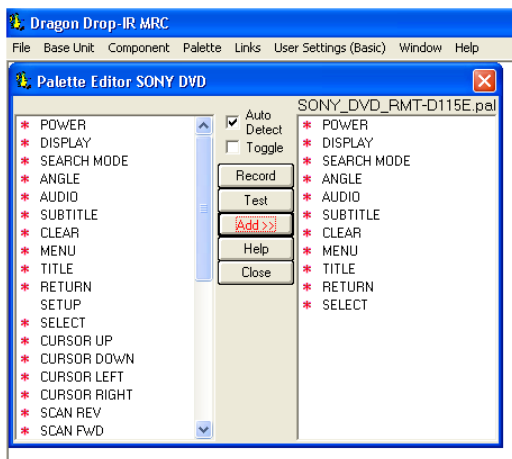

Figure 19: Creating a Palette File
4. The Palette Editor will now be open to the “Brand” & “Component” selected. A list of FUNCTIONS for that type of component will appear as shown in **Figure 19**. Review the list of Functions on the left hand side and compare to the source remote. If your function is not displayed or not named appropriately see the section entitled ‘Editing Function Names in the Palette Editor.